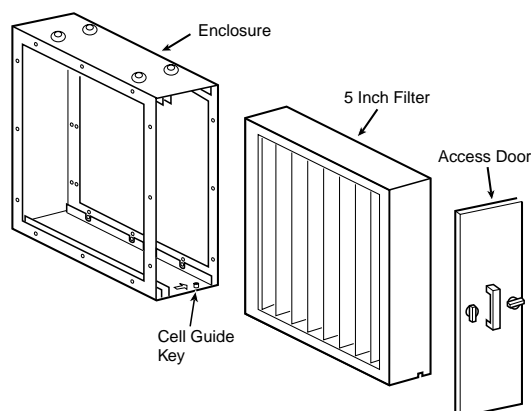

Fig. 2. Filter Enclosure with 5" Media Filter
6. On side return furnace applications, the air cleaner may be installed on either side of the cabinet. See Figure 2. Position the pre-filter on the side away from the furnace. The cell guide key, installed in the cabinet will only allow the cells to be installed in the proper direction. Air flow direction must agree with air flow arrows on the cabinet.